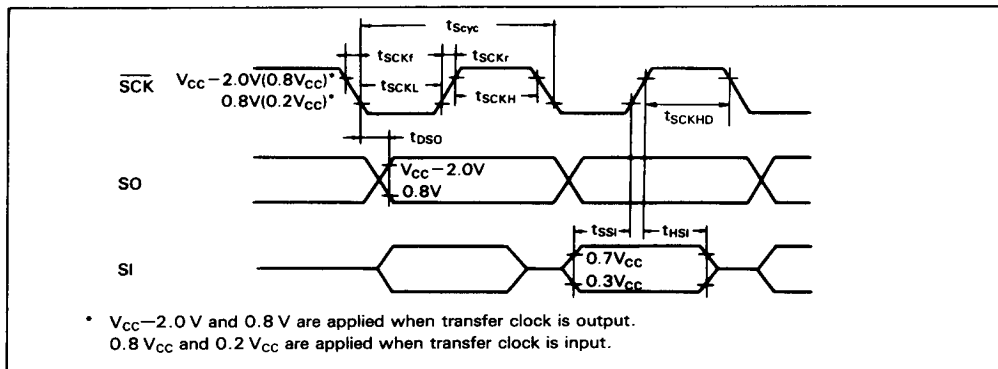

Figure 56. Serial Interface Timing
- Notes: 1. See figure 56.
2. See figure 56.